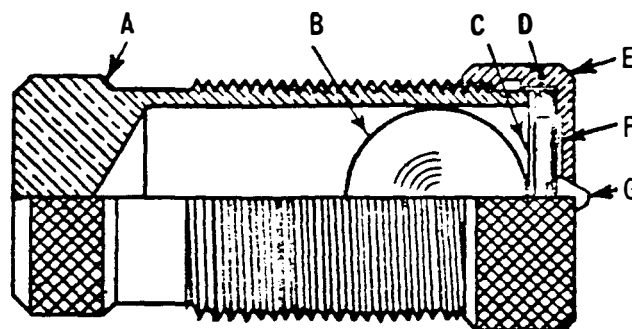

Fig. 21 Contact Assembly for Directional Unit
The contacts of the directional unit, Fig. 21, are specially constructed to suppress bouncing. The stationary contact (G), is mounted on a flat spiral spring (F) backed up by a thin diaphragm (C). These are both mounted in a slightly inclined tube (A). A stainless steel ball (B) is placed in the tube before the diaphragm is assembled. When the moving contact hits the stationary contact, the energy of the former is imparted to the latter and thence to the ball, which is free to roll up the inclined tube. Thus, the moving contact comes to rest with substantially no rebound or vibration. To change the stationary contact mounting spring, remove the contact barrel and sleeve as a complete unit after loosening the screw at the front of the contact block. Unscrew the cap (E). The contact and its flat spiral mounting spring may then be removed.